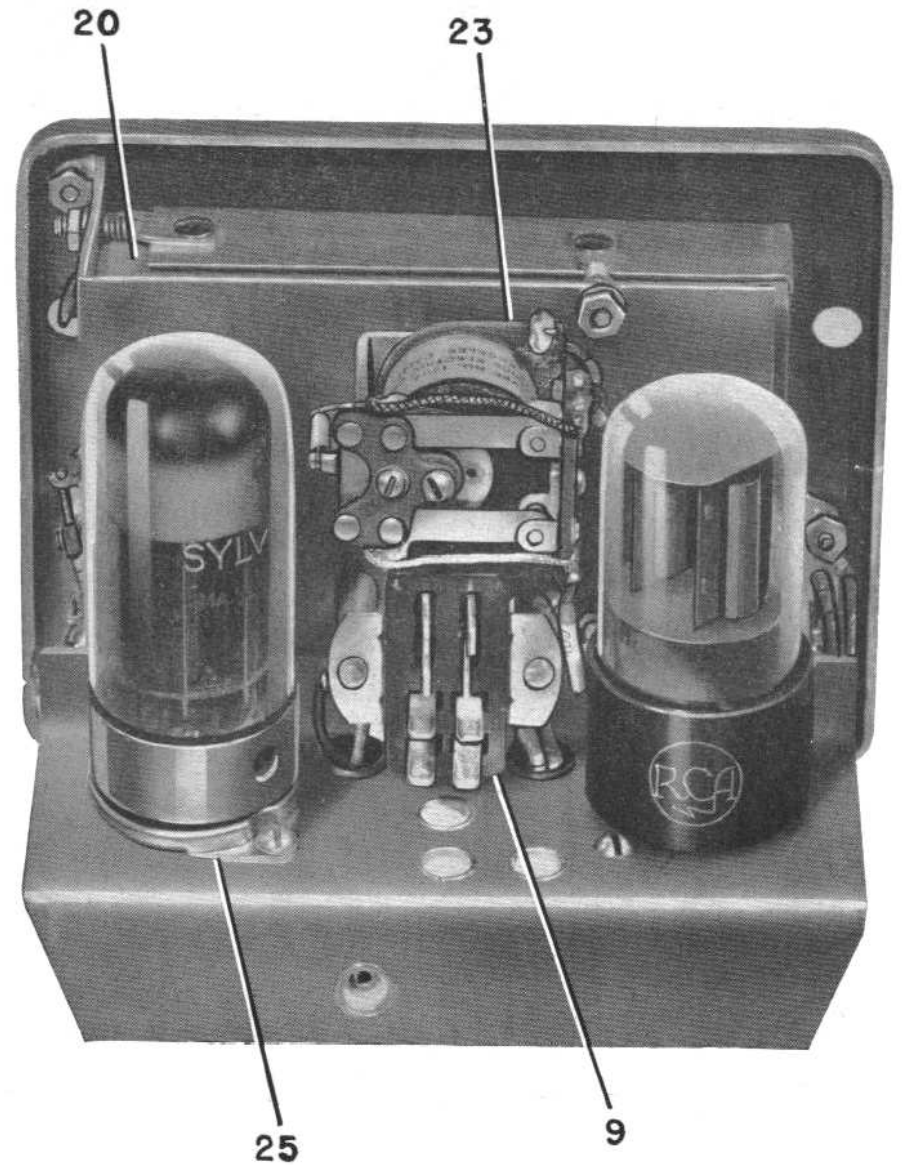

Fig. 2. Pre-Amplifier Model K-1 Cover Removed, Top View
One low voltage twin-beam power amplifier vacuum tube JAN-28D7 is used in the output circuit. The output circuit is designed to equal the performance of microphone type T-17. The amplifier chassis assembly is mounted on the back of the cover and wired as a unit to a plug terminal (9) as shown in Figure 2, Page 3. This plug terminal (9) engages a mating plug secured to the inside of the box and thus permits the amplifier assembly to be removed easily. The numbering of the terminals on the plug corresponds to the numbering shown on the circuit label in the amplifier box.